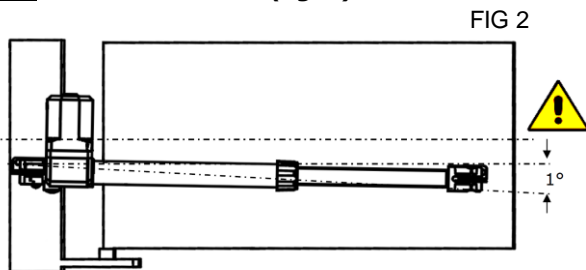

FIG 2
**3 - Place the gear motor inclined approximately 1° below the horizontal line (fig 2)**